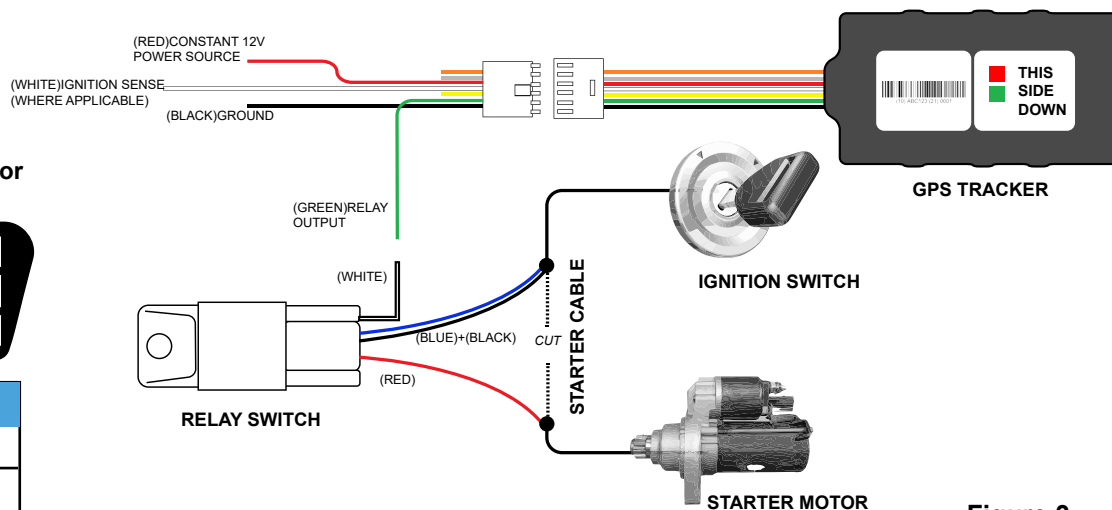

Figure 3
- For the starter interrupt installation follow the steps shown in figure 3.